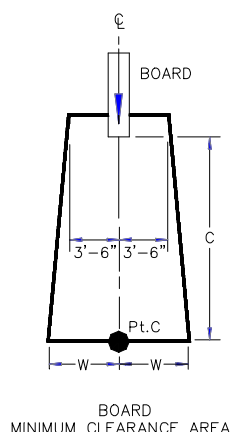

Figure 17
- A. The minimum clearance area in front of a properly installed diving board on an inground swimming pool is a minimum distance of three feet six inches (3'-6") on either side of the board's centerline as shown in Figure 17. Pt. C extends a minimum distance of "C" from the tip end of the board as shown in Figure 17. The width distance "W" on either side of Pt. C is given in CHART 1 and shown in Figure 17.